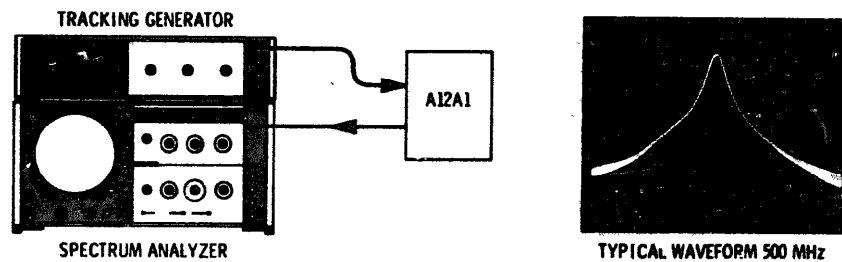

Figure 5-4. A12A1 Filter Adjustment Setup
7. **Connect the A12A1 filter to the equipment as shown in Figure 5-4**
16. Connect the equipment shown in Figure 5-4.